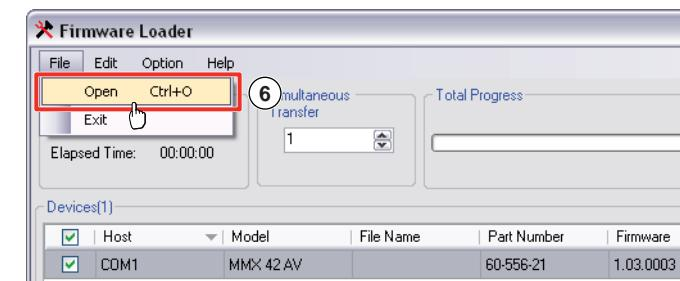

Figure 4-12 — Extron Firmware Loader window
5. Click **OK**. The Firmware Loader window appears (figure 4-12).